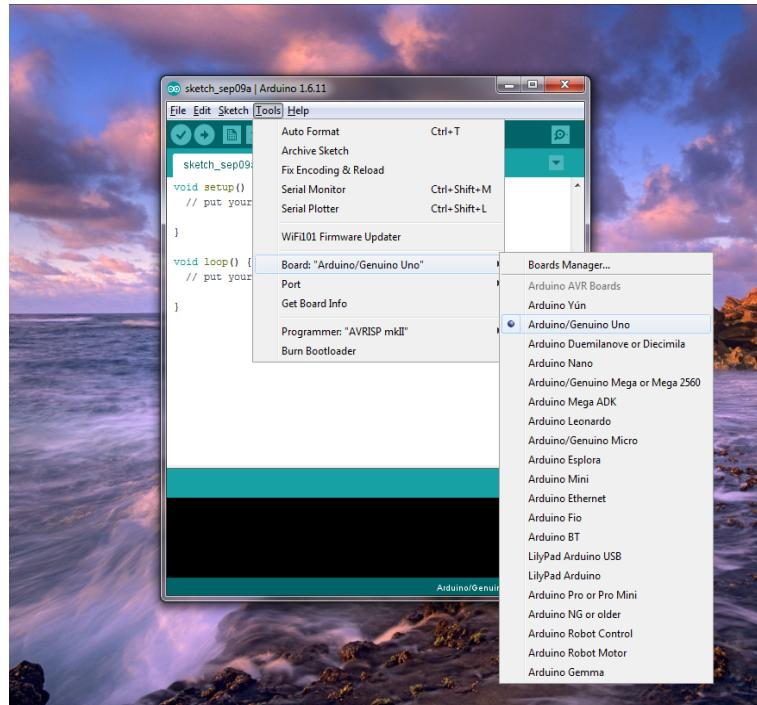

Figure 2 – Selecting the correct Arduino board
3. Select the correct board (Arduino Uno) and serial port (see Figures 2 and 3).